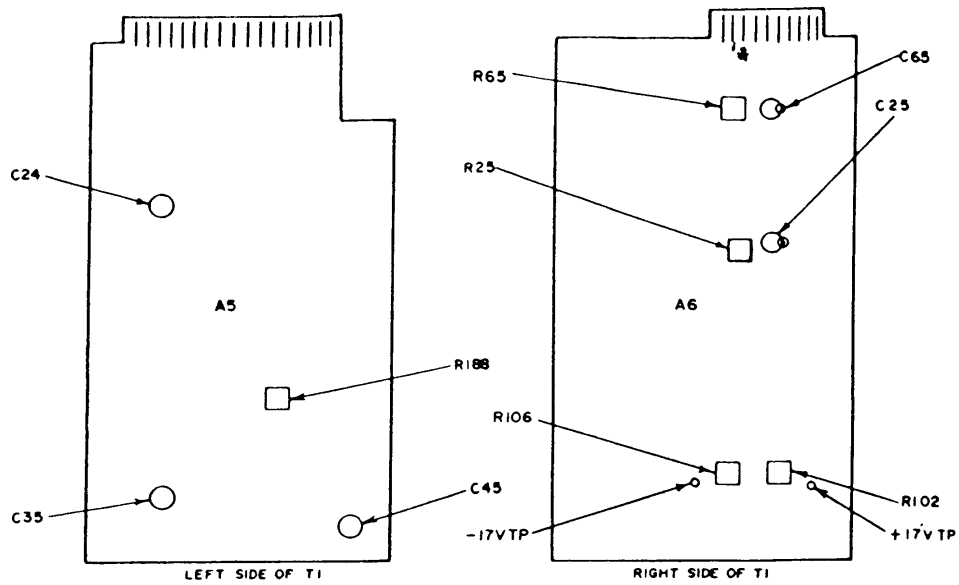

Figure 1. Boards A5 and A6 - adjustment locations.
b. Adjustments. Adjust A5C24 (fig. 1) for an indication of 51.5 MHz on frequency counter (R).
b. Adjustments. Adjust A5C35 (fig. 1) for a pulse delay of 1.2 μ s (R).
b. Adjustments. Adjust A5C45 (fig. 1) for a pulse width of 1.3 μ s. (R).
(1) Adjust A6C25 and A6R25 (fig. 1) until preshoot, overshoot, and ringing is less than 5 percent of pulse amplitude (R).
(2) Adjust A6C65 and A6R65 (fig. 1) until preshoot, overshoot, and ringing is less than 5 percent of pulse amplitude (R).
(1) Adjust **PULSE PERIOD VERNIER** control for a display of one complete pulse on oscilloscope.
(2) Set **PULSE DOUBLE/NORM** switch to **DOUBLE**.
(3) Adjust **PULSE DELAY VERNIER** control to produce two pulses spaced at least 20 ns between leading edges. If width of each pulse is not the same, perform **b** below.
b. Adjustments. Adjust A5R188 (fig. 1) until width of first pulse is same as second pulse (R).
(1) Connect multimeter between +17 V TP (fig. 1) and ground. If multimeter does not indicate between 16.9 and 17.1 V dc, perform **b(1)** below.
(2) Connect multimeter between -17 TP (fig. 1) and ground. If multimeter does not indicate between -16.9 and -17.1 V dc, perform **b(2)** below.
(1) Adjust A6R102 (fig. 1) for a 17.00 V dc indication on multimeter (R).
(2) Adjust A6R106 (fig. 1) for a 17.00 V dc indication on multimeter (R).